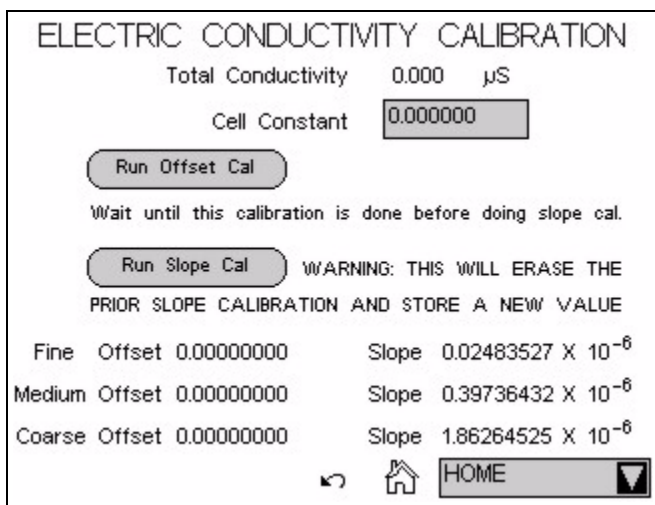

Figure 5-20. Electric Conductivity Calibration Page
- b. On the **ELECTRIC CONDUCTIVITY CALIBRATION** page (see Figure 5-20), touch **Run Offset Cal**.